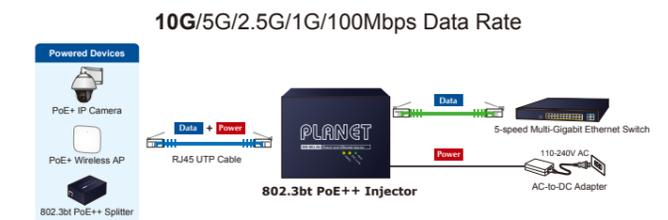

Figure 3: Architecture of Connected IEEE 802.3af/at/bt Devices
- The POE-171A series/POE-176-95, adopting the IEEE 802.3af/at/bt technology, can directly connect with any IEEE 802.3af/at/bt end-nodes, such as PTZ (pan, tilt & zoom) network cameras, PTZ speed dome cameras, color touch screen, Voice over IP (VoIP) telephones and multi-channel wireless LAN access points as the screen in Figure 3 is shown below.